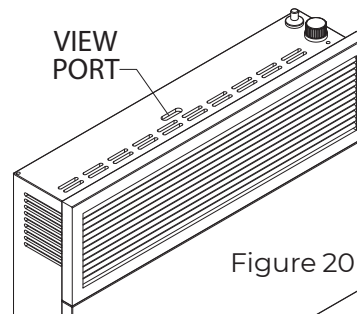

Figure 20
- Pilot and Burner - Periodically visually check the pilot and burner flames (view flames through view port). The correct flame pattern should be viewed by looking through the view port on top of the unit (Fig. 20).